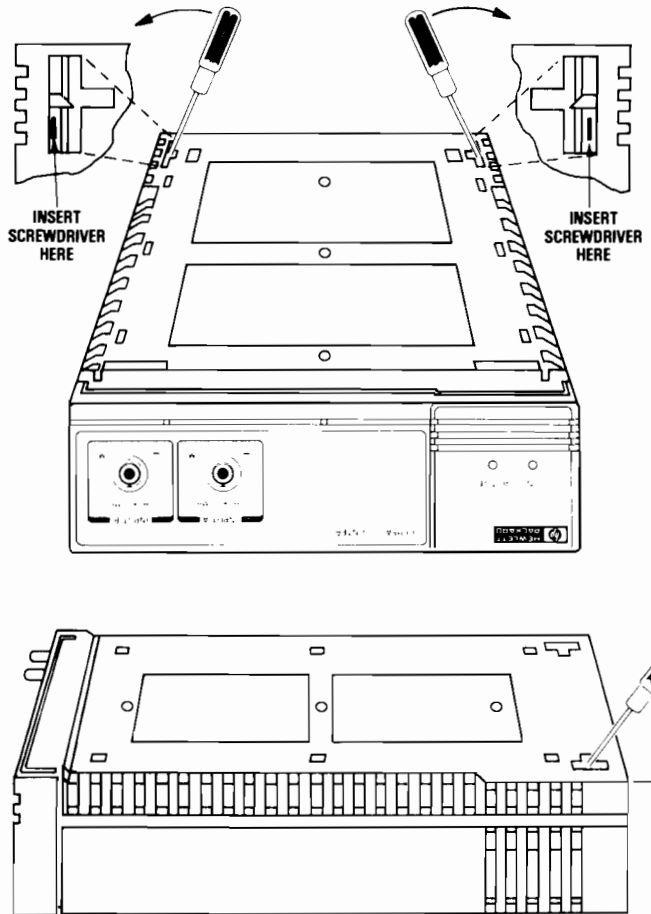

Figure B-1. Cover Removal
3. Insert a small, strong, screwdriver into one of the rear latch holes at a 45° angle as shown in Figure B-1. Pay particular attention to the screwdriver placement shown in the detail drawing of the latch hole.
2. Replace the top cover by sliding the two BNC connectors through the front until their threads show. To lock the two latches at the rear of the unit requires two steps. First, slightly spread the top cover sides out near the rear of the unit and lightly press down to *partially* close the cover (on some units nothing may appear to happen during this step because the top and bottom covers may be already lined up). Next (near the rear of the unit again) firmly press the top down, and the sides in, until the two latches snap into place. Check that both latches lock into place by inspecting them through the latch holes located on the bottom of the unit as shown by the expanded view in Figure B-1.